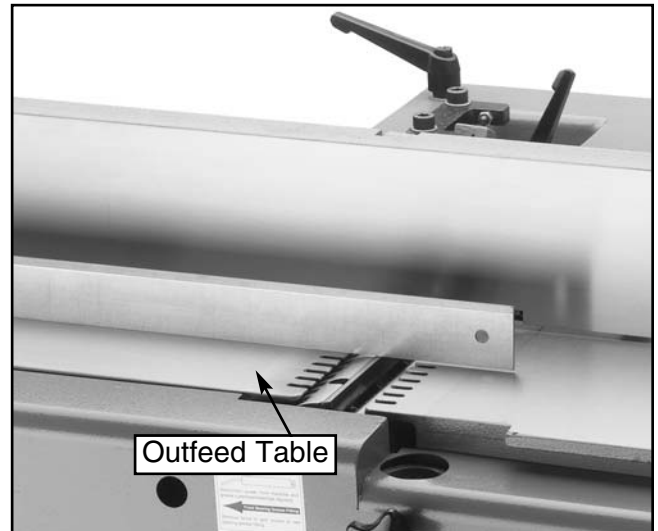

Figure 12. Setting outfeed table with straightedge.
3. Position a steel straightedge on the outfeed table. Extend the straightedge over the middle of the cutterhead as shown in **Figure 12**.